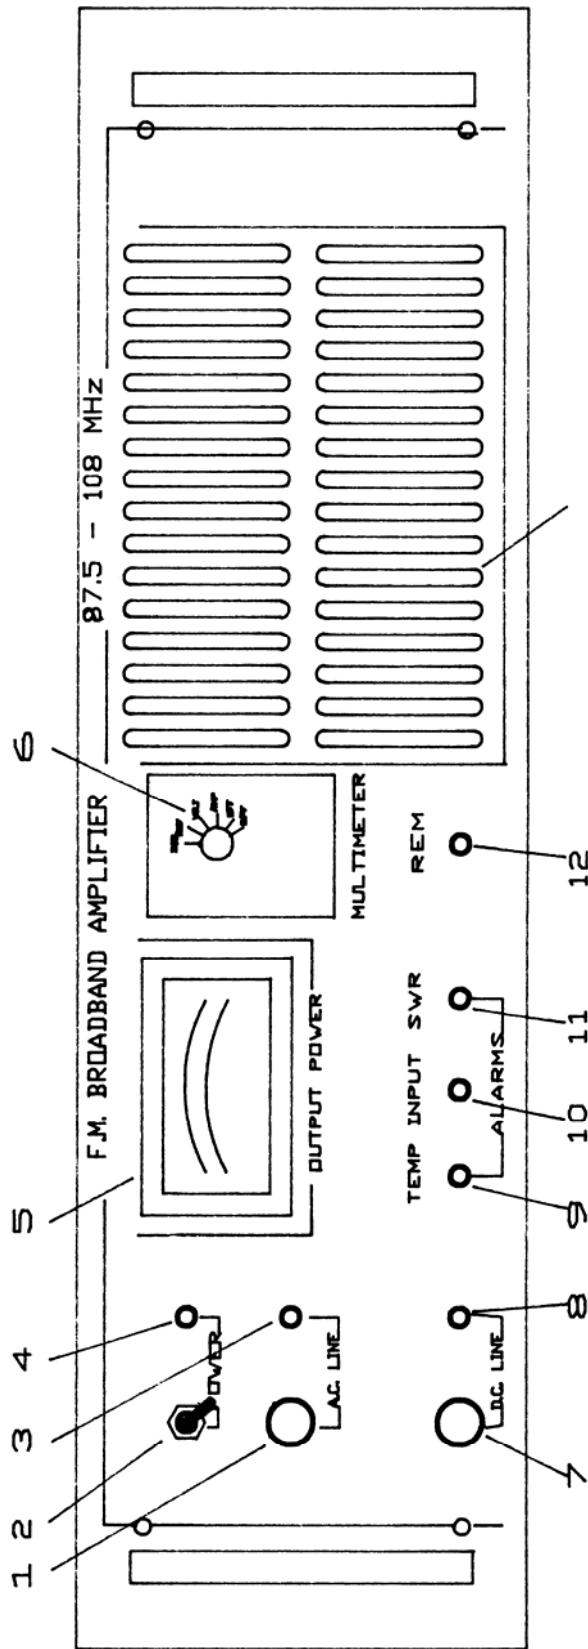

FIGURE 1 FRONT PANEL
The forward and reflected power of the amplifier are read by the analog multimeter (11.Fig.1) and selected by the selector (12.Fig.1) on the front panel. Various led indicators indicate the alarm conditions caused by thermal problems (3.Fig.1), excessive input drive power (4.Fig.1) and excessive SWR (5.Fig.1). A green indicator confirms the amplifier is operational (10.Fig.1).
- 1) Place the DIR/REF selector (12.Fig.1) to the REF position.
- 2) Place the DIR/REF selector (12.Fig.1) to the DIR position.